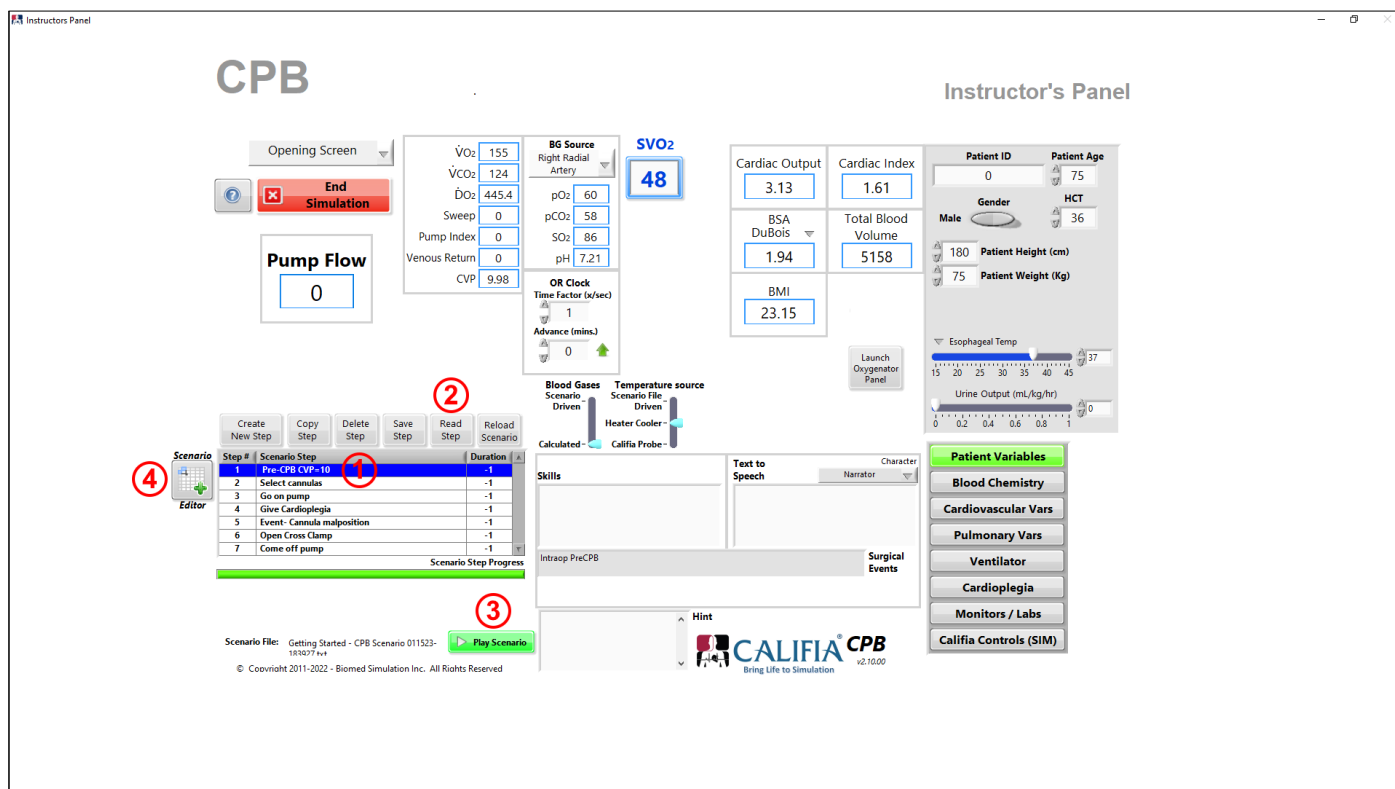

Figure 5.34 Run Scenario File
Follow these steps, refer to Figure 5.34,
Press Scenario Editor button, ④, refer to Figure 5.34.